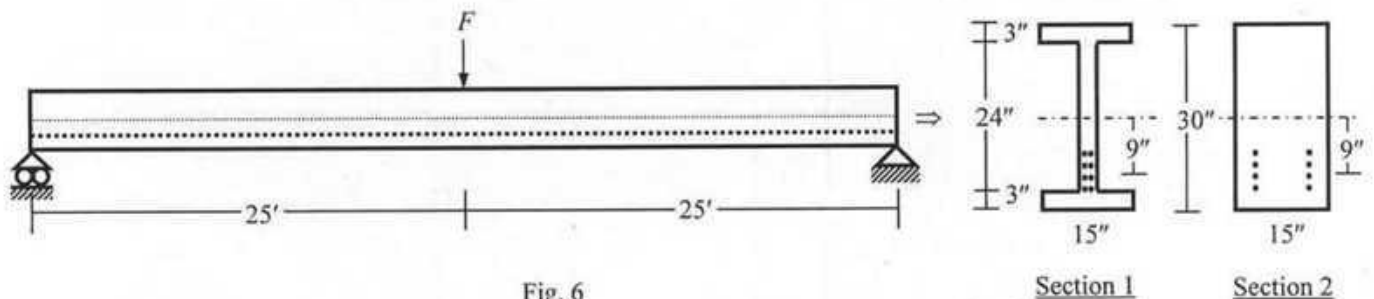

Fig. 6
10. Fig. 6 shows a simply-supported concrete beam subjected to pre-stressing force of 250 kips that reduces to 200 kips after losses. For both sections of the beam (i.e., Section 1 and Section 2),